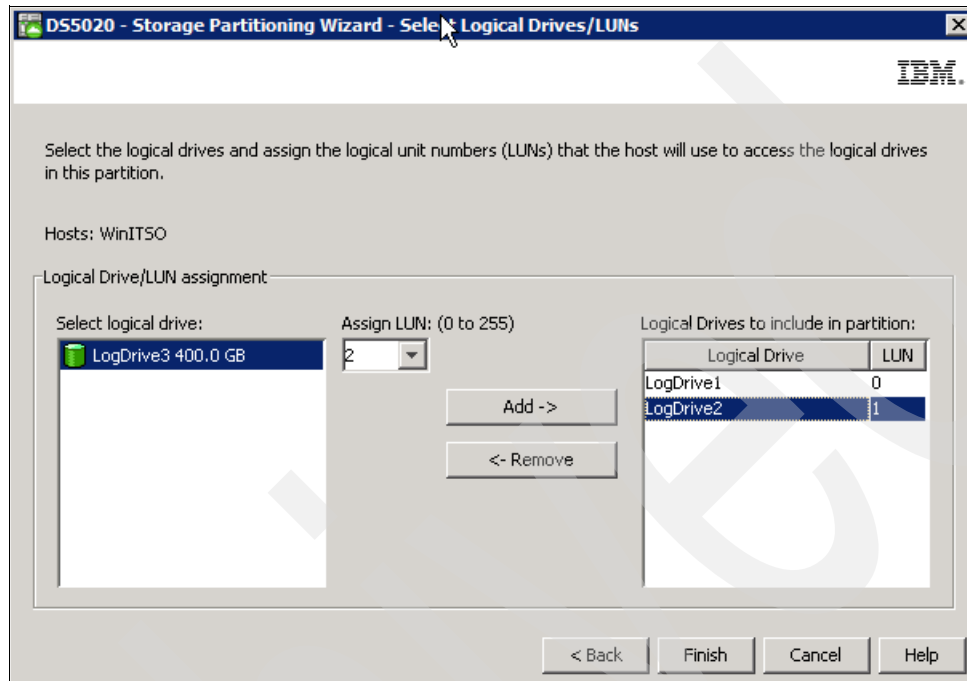

Figure 4-77 Storage Partitioning wizard: Selecting logical drives/LUNs
- The next window allows you to select the logical drives that are going to be mapped to the host or the group. You also have to specify a LUN for each logical drive. In our example, shown in Figure 4-77, we selected WindowsLD1 and WindowsLD2. We assigned the LUNs 0 and 1, respectively, to these two logical drives.
- Display your newly defined host groups, host, and mappings by selecting the **Mappings** view in the Subsystem management windows, as shown in Figure 4-77.